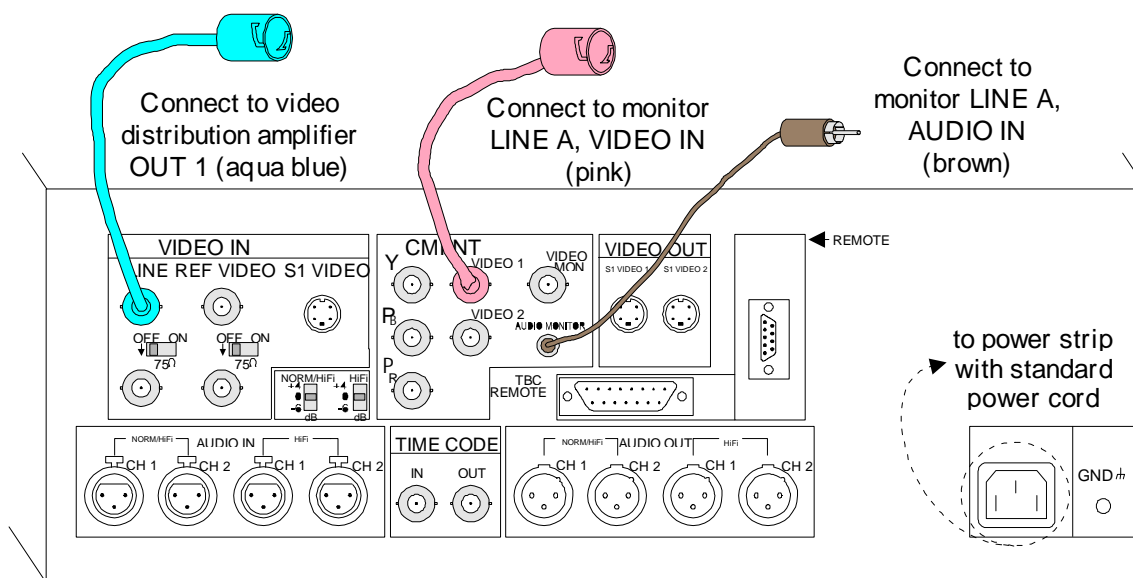

Figure 12
25. Now connect the other end of the BNC patch cord to the VIDEO IN jack, on the back of the VCR (see **Figure 12** [aqua blue]).
26. Connect one end of the RCA patch cord to the CMPNT, AUDIO MONITOR jack on the back of the VCR (see **Figure 12** [brown]).
29. Now connect the other end of the BNC patch cord to the CMPNT, VIDEO 1 jack, on the back of the VCR (see **Figure 12** [pink]).